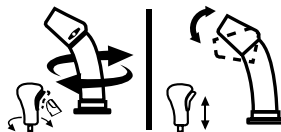

Figure 59
- To change the direction in which snow is thrown, squeeze the button on the control and rotate to the right or to the left (Figure 59).